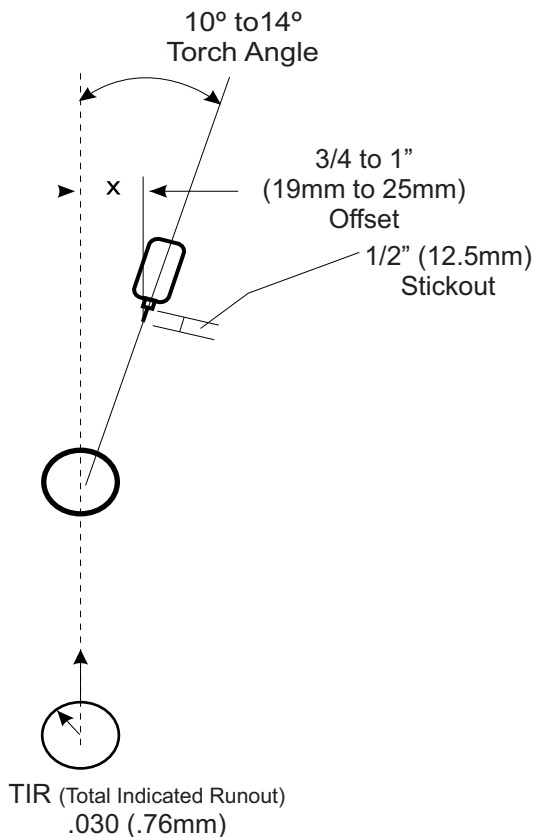

FIG. 1
9. Only use a 75/25 Argon/CO2 mixture as a shielding gas. DO NOT use a 98/2 Argon/Oxygen mixture. Commence welding, starting at 1" (25mm) from the threaded end of the upset connection area working toward the tubing pipe body. Apply with a 50% tie-in (minimum 1/8" (3.2mm) overlap) on previous band to eliminate voids and imperfections. See Fig.1 for complete welding setup.